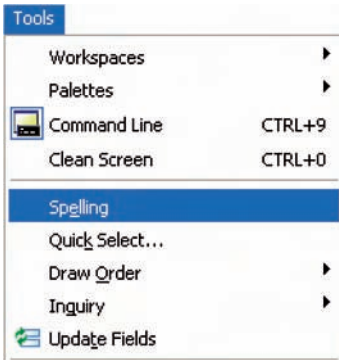

Fig. 6.40 **Spelling** in the **Tools** drop-down menu
2. Either click **Spelling** in the **Tools** drop-down menu (Fig. 6.40) or enter **spell** or **sp** at the command line.